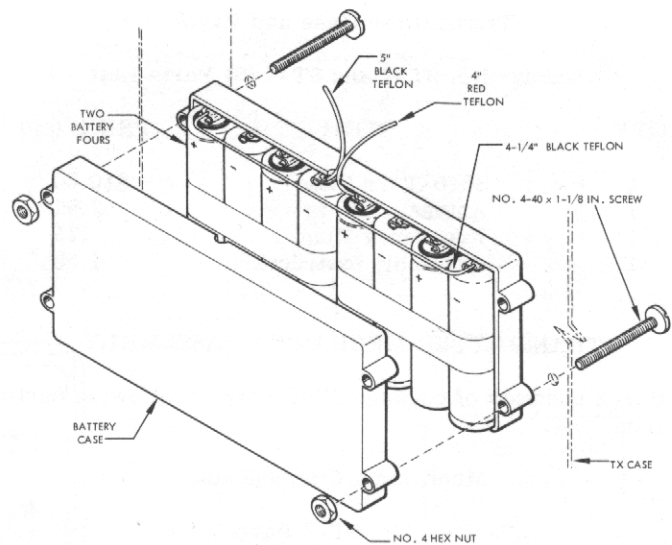

Figure 16. Assembling Transmitter Battery Pack
- 142. Position two battery four-packs, with polarities as shown in figure 16, in front half of battery case.